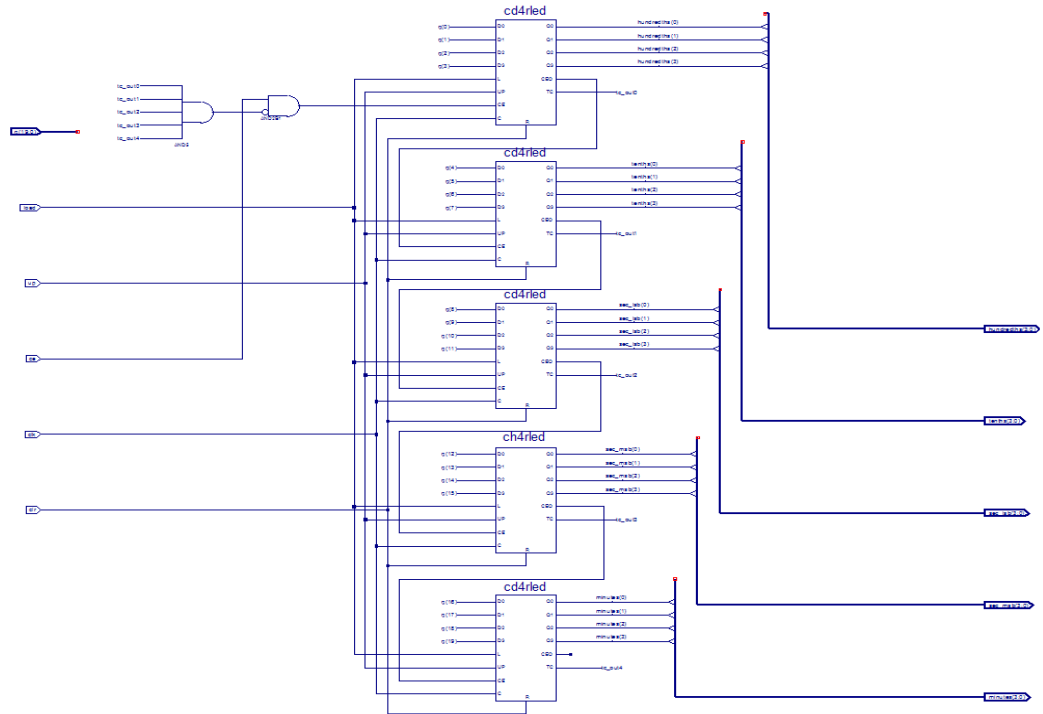

Figure 3-15: Completed time_cnt Schematic
8. Compare your time_cnt schematic with Figure 3-15 to ensure that all connections are made properly.
5. Click successively on each of the nets connected to data inputs, starting from the top so that the net named q(0) is attached to the D0 pin of the top counter and the net named q(19) is attached to the D3 pin of the bottom counter. Refer to Figure 3-15.